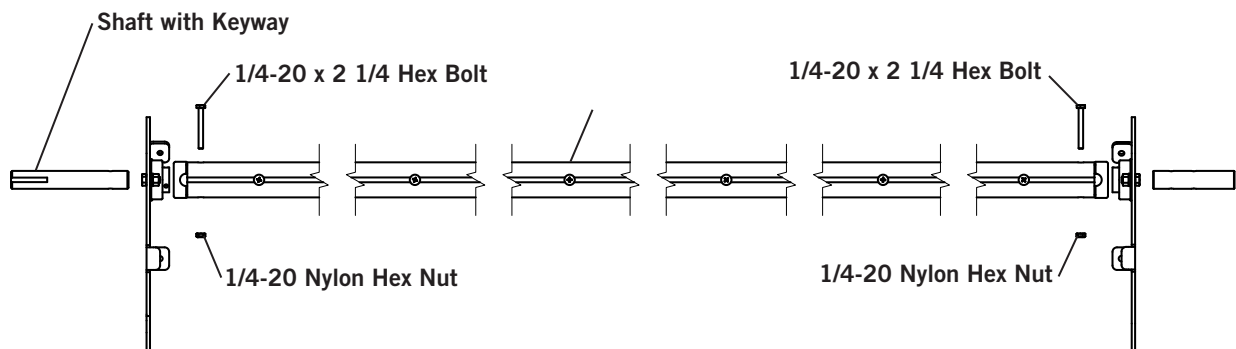

Figure 9-1
- 1) **Figure 9-1.** Unbolt and remove the shafts from both ends of fixed manual roll up bar (1).
- 2) On the driver's side align the fixed manual roll up bar (1) with the bearing, insert the shaft with the keyway through the bearing.
- 4) On the passenger's side align the fixed manual roll up bar (1) with the bearing and insert shaft through the bearing.